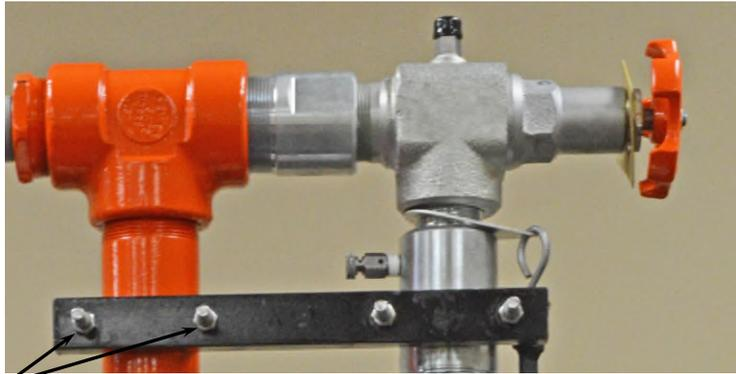

FIGURE 8
4. Attach the Shear Securing Bar with the predrilled holes to the installed SB unit with the appropriate u-bolts and nuts as shown in Figure 8, do not tighten the u-bolt nuts yet.